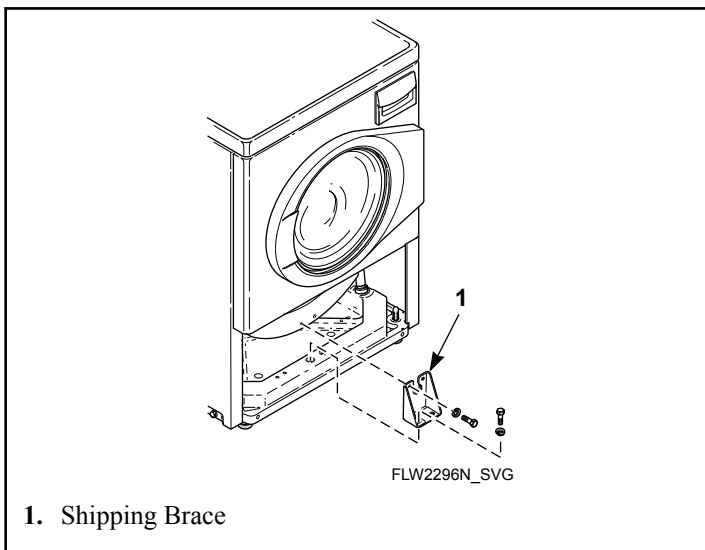

Figure 37
4. Attach shipping brace to weight and base using four bolts and washers. Refer to *Figure 37*.